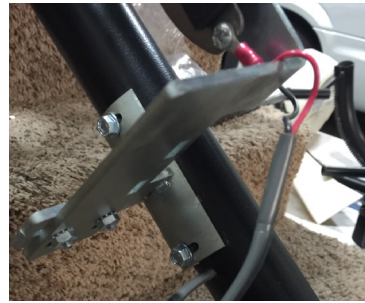

Figure 3-29
4. Drill the size 3/8" hole in the rack to pull the wire out. *See Figure 3-29.*